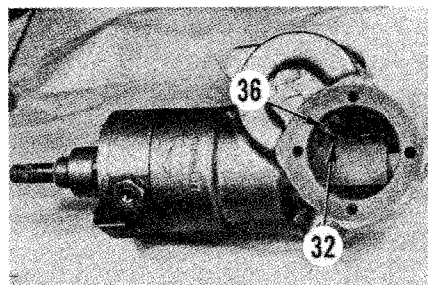
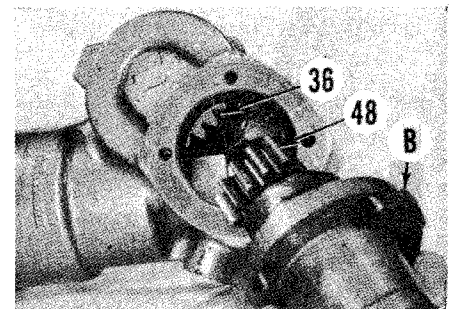

Fig. 16—The marked tooth of the left pinion (36) should be meshed with the center valley of rack (32).
Fig. 17—The first tooth of the right pinion (48) should be meshed with first valley of left pinion (36). Identification boss on housing is shown at (B).
Turn the installed steering shaft (31) until the rack (32) is at bottom of travel, position the steering gear housing (34) as normally installed on the tractor and install the left pitman shaft and housing assembly. The flat identification boss on left housing should be down when installed. The marked third tooth on left pinion should be aligned with the center valley of the rack as shown in Fig. 16. Install retaining screws, then turn steering shaft until rack (32) is all the way up in housing. Align the first tooth on right pinion (48—Fig. 17) with first valley on left pinion (36) as shown. The identification boss (B) on right housing should be toward front as installed on tractor. After correct alignment is obtained, the right side pinion housing can be temporarily removed (while maintaining correct alignment) and housing filled through opening to capacity with Massey-Ferguson Permtran Oil or equivalent. Install the right pinion housing and right pitman shaft after filling with oil.